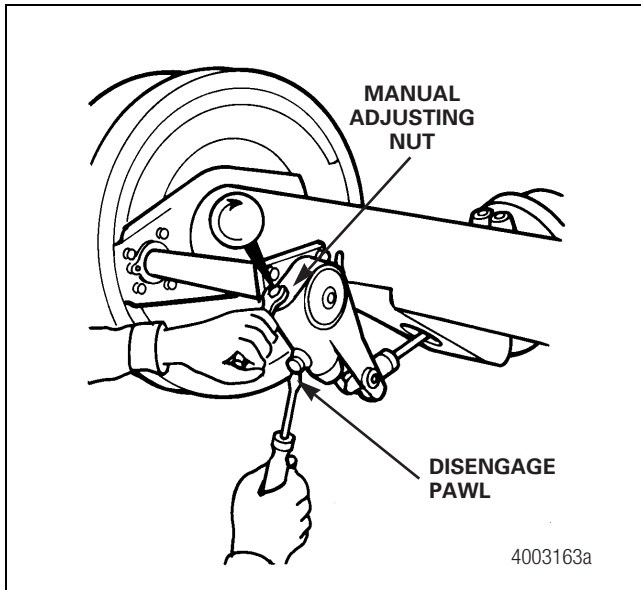

Figure 4
- **For a pull pawl:** Pry the pawl at least 1/32-inch (0.794 mm) to disengage the teeth. Figure 4.